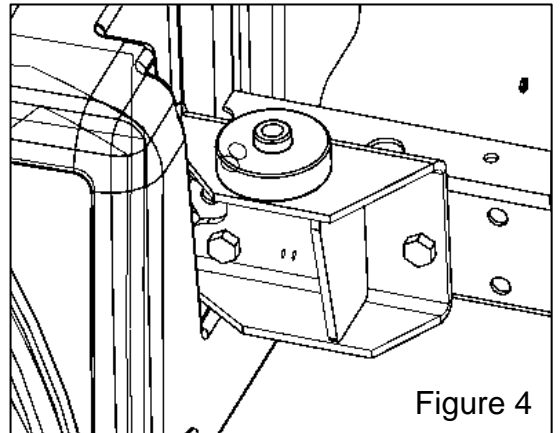

Figure 4
14. Remove lock nut and cap screw from form lower end of each stabilizer link. (see figure 4)
5. Position mounting pads on mounting holes. Figure 4